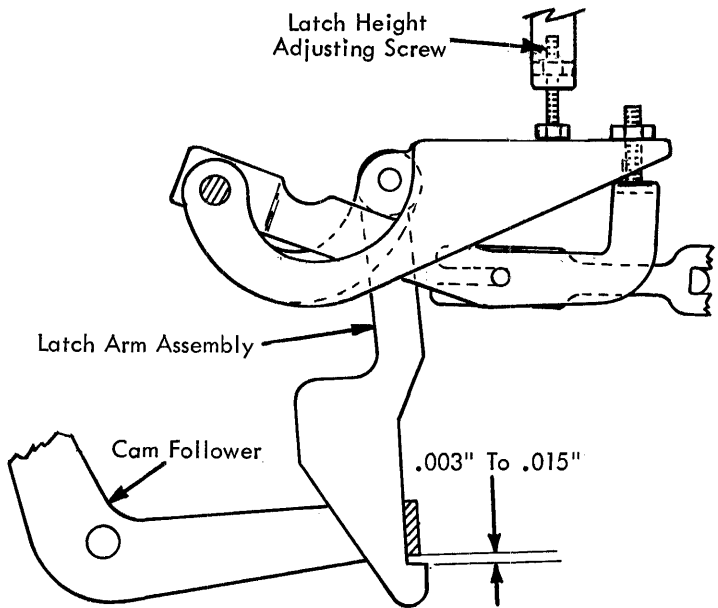

FIGURE 203.1 Carrier Return Latch Height (11 Inch Late Style)
- 1.1 Carrier Return Latch Height Late Style (11 Inch Machine) With the carrier return cam at rest, adjust the carrier return latch height by the adjusting screw on the carrier return adjusting plate so that the latch will pass under the cam follower by .003" to .015" (Fig. 203.1).